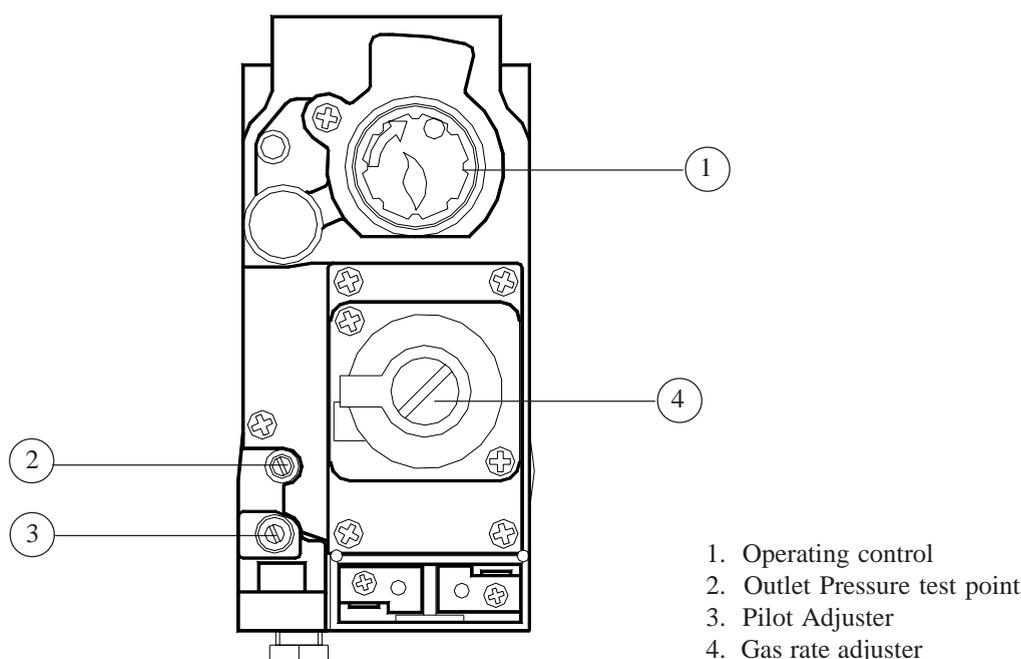

Fig. 4
- 6.3.2 On the Multifunctional control, remove the Outlet Pressure test point cover, and fit a pressure test gauge (refer Fig. 4).
- 6.3.4 Referring to Fig .4, press and hold the OPERATING CONTROL, and whilst observing the Pilot Burner, repeatedly press the Piezo igniter button until the Pilot burner ignites.
- 6.4.1 Referring to Table 4 and Fig. 4 below, ensure the pressure test gauge the indicates correct burner pressure.